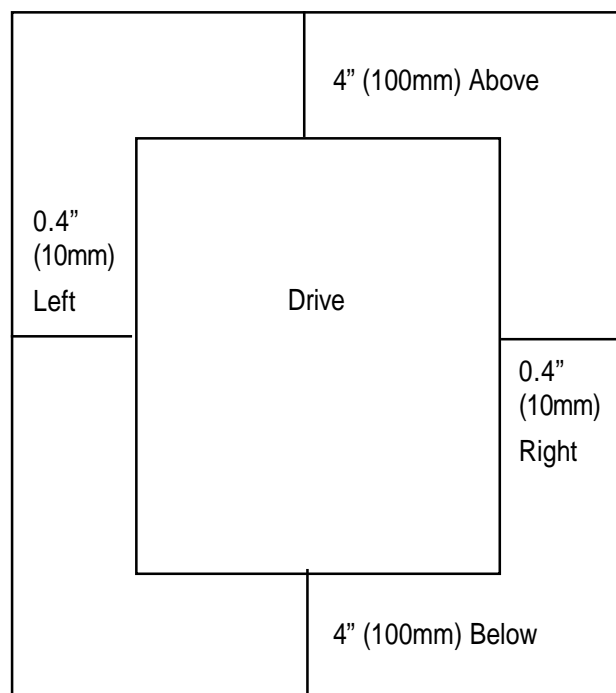

Figure 2-2-1
- (1) Securely mount the drive in the upright position on a rigid structure so that the PC10 characters face front. Avoid mounting the drive upside down or horizontally.
- (2) Allow clearances for cooling as shown in Fig. 2-2-1. This allows the drive, which generates heat during operation, to cool. The generated heat is radiated upward. Do not install the drive below a heat sensitive device.
- (3) The temperature of the heat sink rises to about 90 degrees C during operation of the drive. Mount the drive on a base made of a material able to withstand the temperature rise.